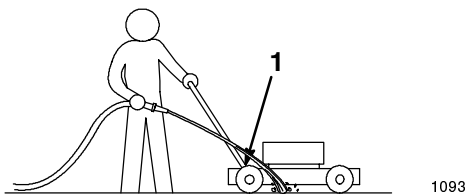

Figure 18
3. Hold the running garden hose at handle level and direct the water to flow on the ground just in front of the right rear tire (Fig. 18).